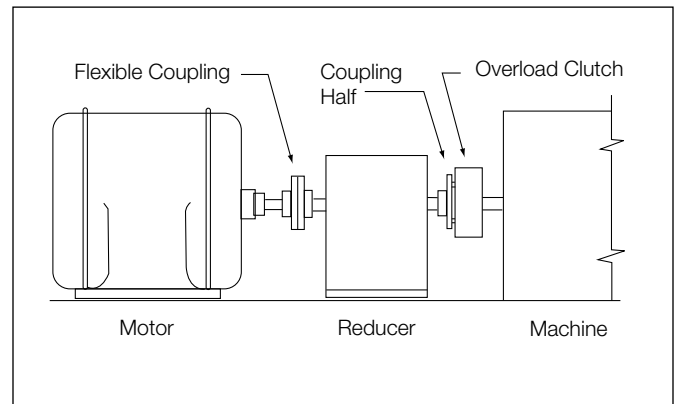

Figure 6
The clutch should always be located as close as possible to the source of an overload condition. Figures 6 through 9 indicate both preferred and not preferred locations for mounting a Series HOR mechanical overload release clutch.
a. Figure 6 shows the preferred location for mounting in a direct drive application. The clutch is mounted on the low speed side of the reducer, and transmits power from its housing, through its rotor to the driven shaft.